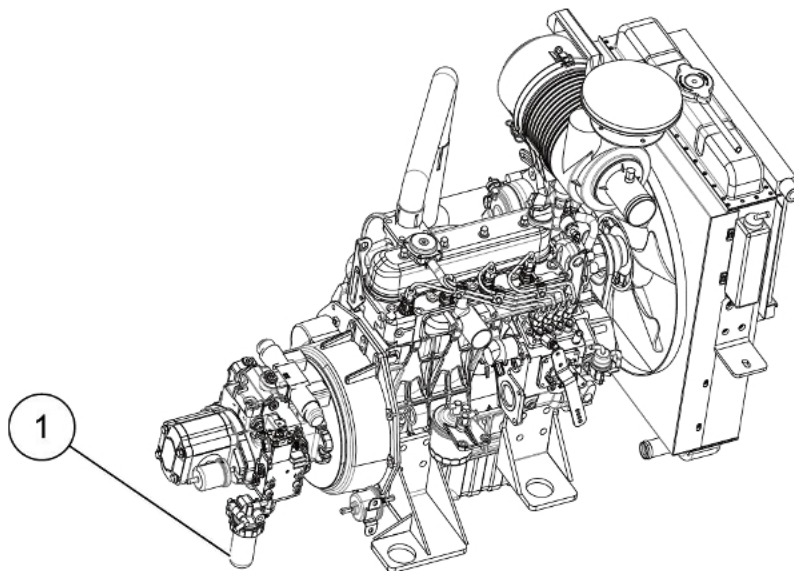

Figure 5-40 Draining fuel filter
Step 3: Unscrew the drain knob (1) under the fuel filter to drain until the yellow liquid (diesel) flows out, as shown in Figure 5-40;